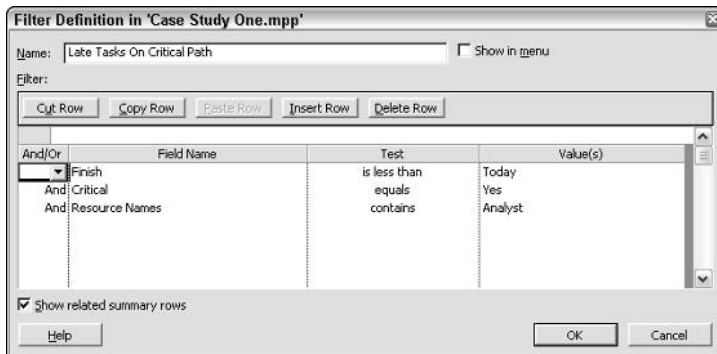

Figure 25-3: The Filter Definition dialog box contains the filter criteria that are used by the macro.
6. Complete the Filter Definition dialog box, as shown in Figure 25-3, and click OK.